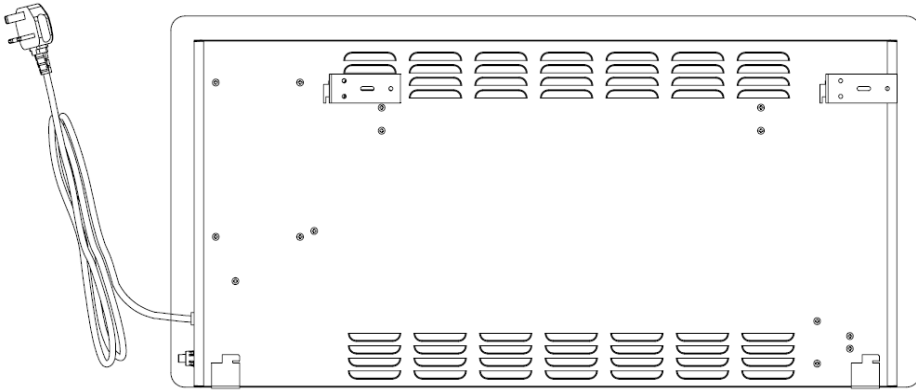
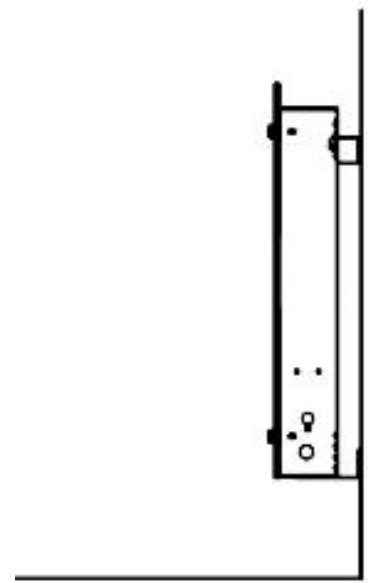

Fig.4: Wall mount rear view
Fig.5: Wall mount side view
- 4. Hold the side of the product, align it with the wall mounting hole on the rear cover, and slide it upwards into the top of the brackets fixed on the wall to complete the wall installation, as shown in the pictures below Fig. 4 and Fig.5.